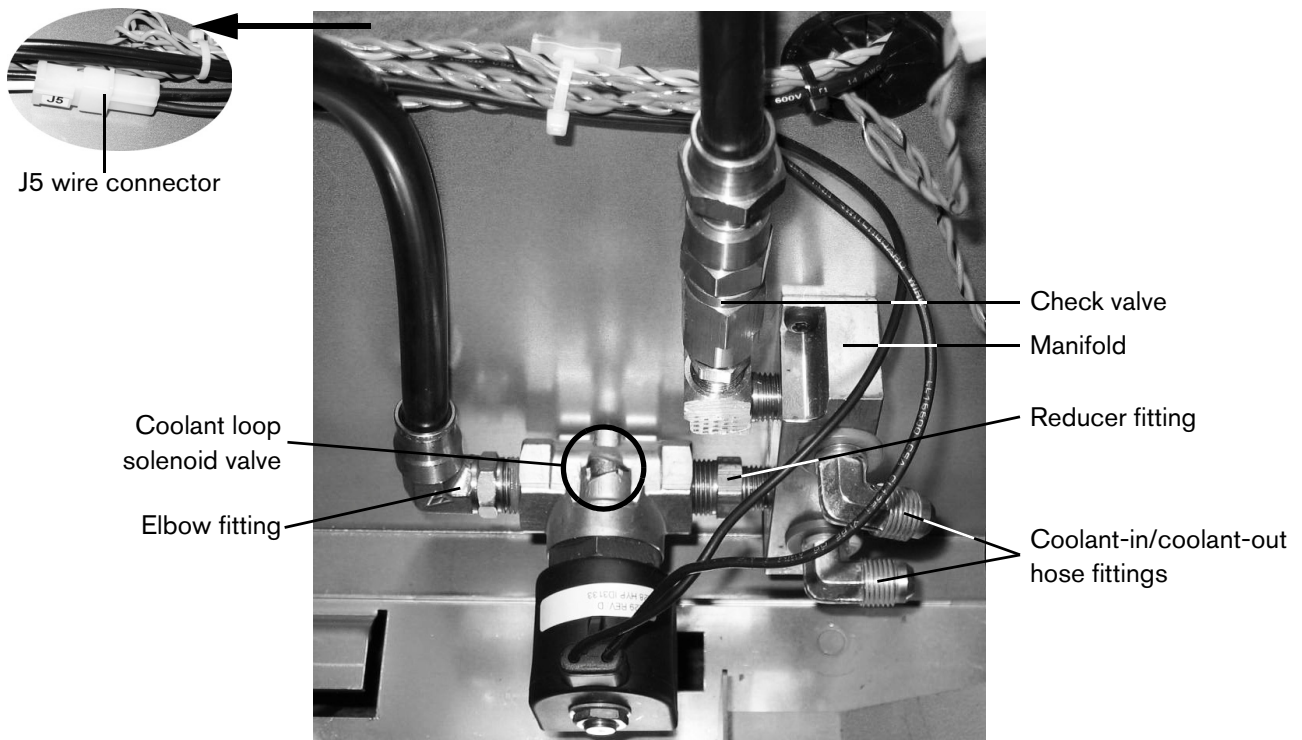

Figure 2: Coolant loop solenoid valve correctly positioned within the HPR130XD power supply
- Orient the valve correctly; the green arrow painted on the valve should point towards the rear wall of the power supply, as shown in Figure 2 below.